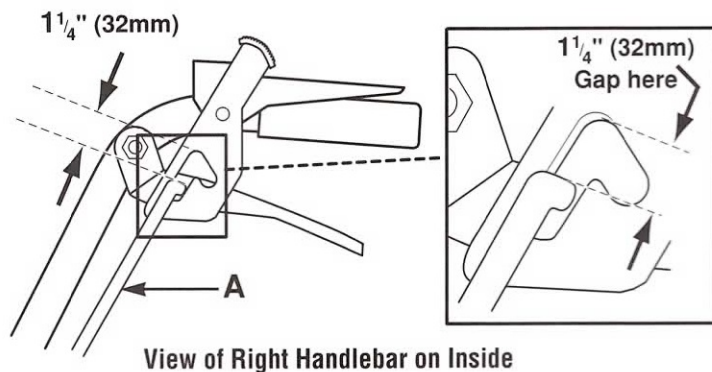
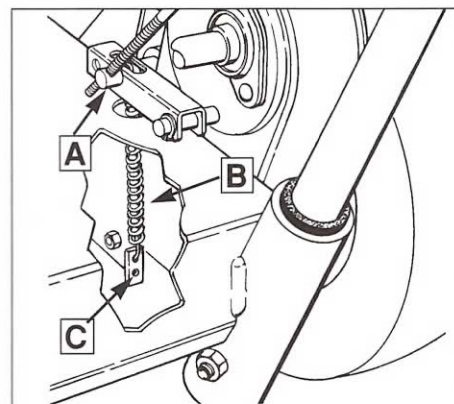

Fig. 5-2
Fig. 5-3
**NOTE: This adjustment does not control drive belt tension. Springs (B, Fig. 5-3) control drive belt tension.**
3. Thread the rods in or out of the idler arm (A, Fig. 5-3) as needed. Adjust each wheel drive control rod (A, Fig. 5-2) until there is a 1-1/4" (32mm) gap between the rod and the plastic thumb latch. Adjust both control rods evenly.
tension spring (B, Fig. 5-3) has loosened, or if the wheel drive belt has worn.